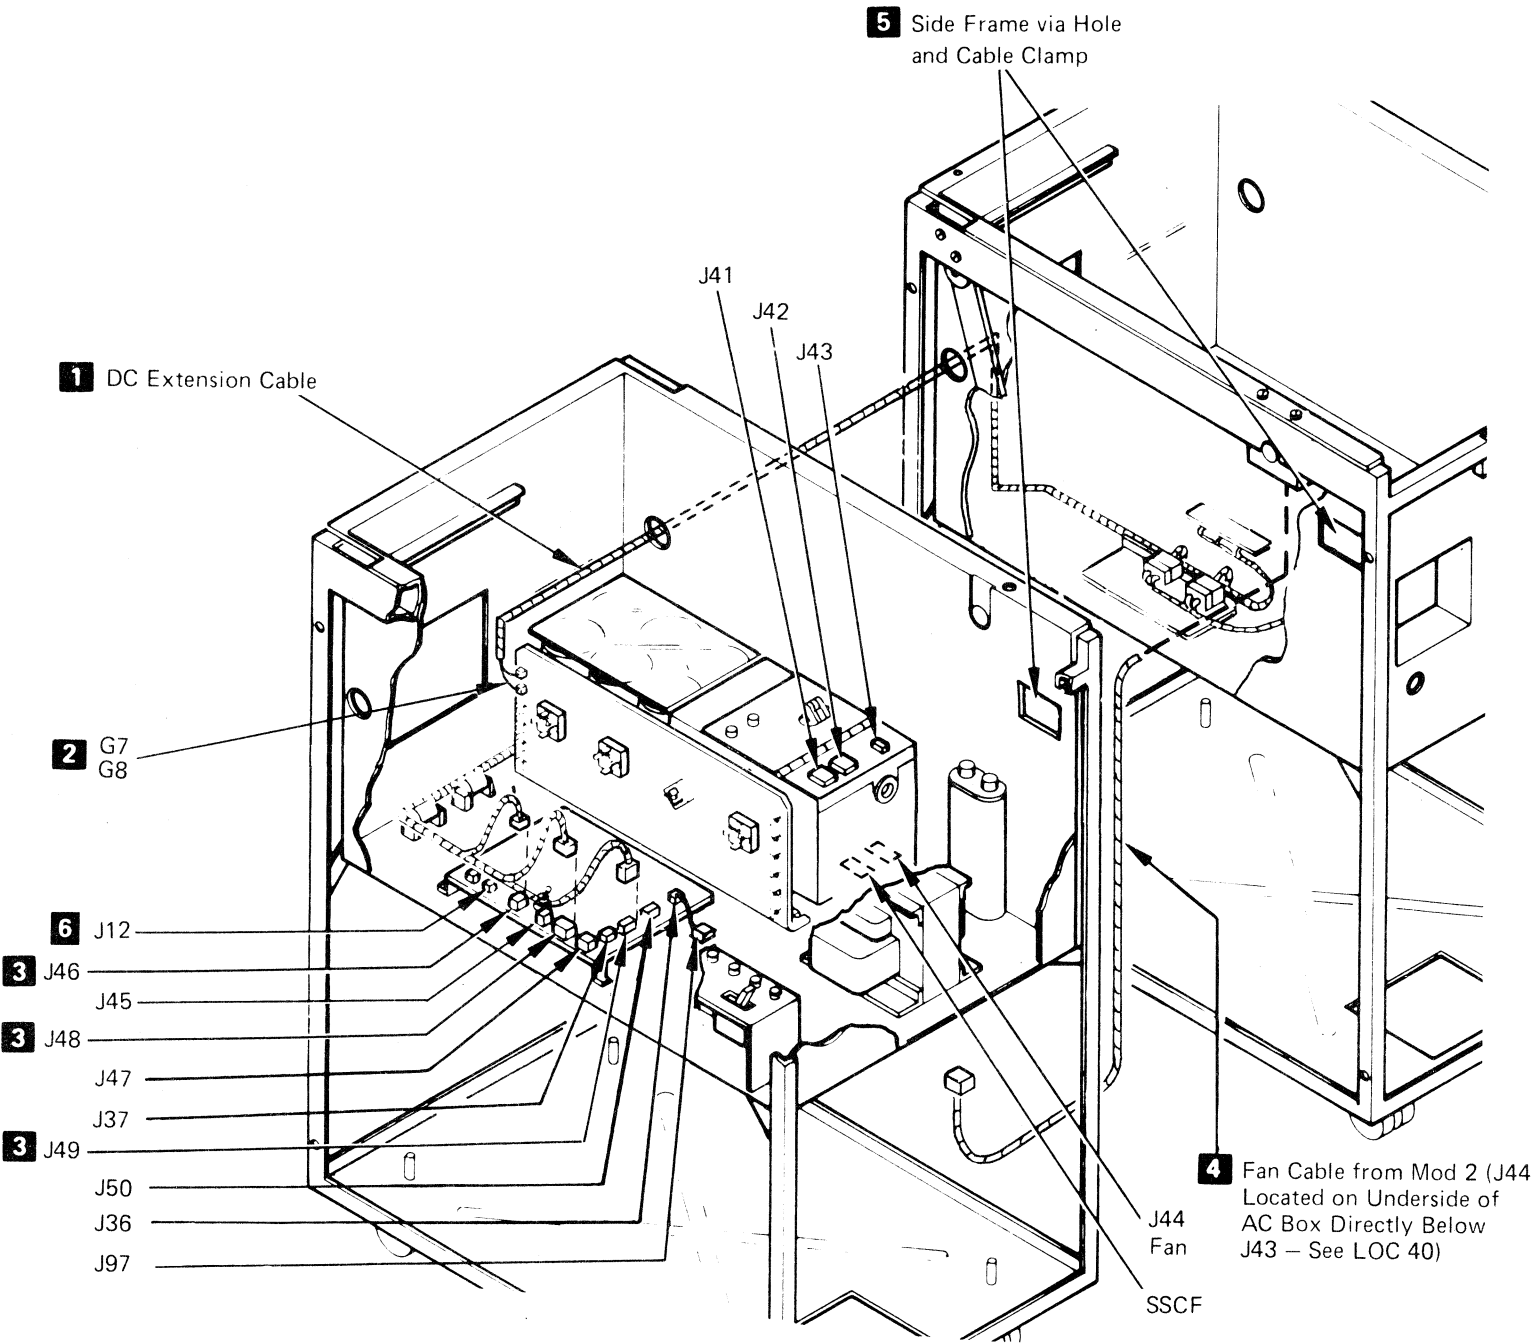

Figure 6. DC Extension and Fan Cables
See Figure 6 on INST 40 or LOC 40 for location of J97.
The DC Extension Cable shown on (Figure 6, **1**) provides dc power from a Model 1A, 1B, or 3 to a Model 2. The Model 2 is shipped with this cable preinstalled.
- 20. Route the DC Extension Cable in the Model 1A, 1B, or 3 as shown in (Figure 6, **1**). The cables attach to J46, J48, and J49 **3** in Models 1A, 1B, or 3. Remove the load resistor cables installed in J46 and J48, and remove the jumper plug in the J49 position. Plug in the DC Extension Cable coming from Model 2. The load resistor cables removed from J46 and J48 remain inside the Model 1A, 1B, or 3, and should be placed so they do not touch any electrical or mechanical parts of the machine.
There are six ground leads that attach to G7, and G8. Install them as shown in (Figure 6, **2**).
- 21. The fan cable shown in (Figure 6, **4**) supplies ac fan power from a Model 1A, 1B, or 3 to a Model 2. Install the fan cable as shown in Figure 6.
- If you are installing a Model 1A, check for the load resistor cables in J12 (Figure 6, 6); a Model 1B will have a cable plugged in J12 that goes to the Magnetic Tape Attachment.